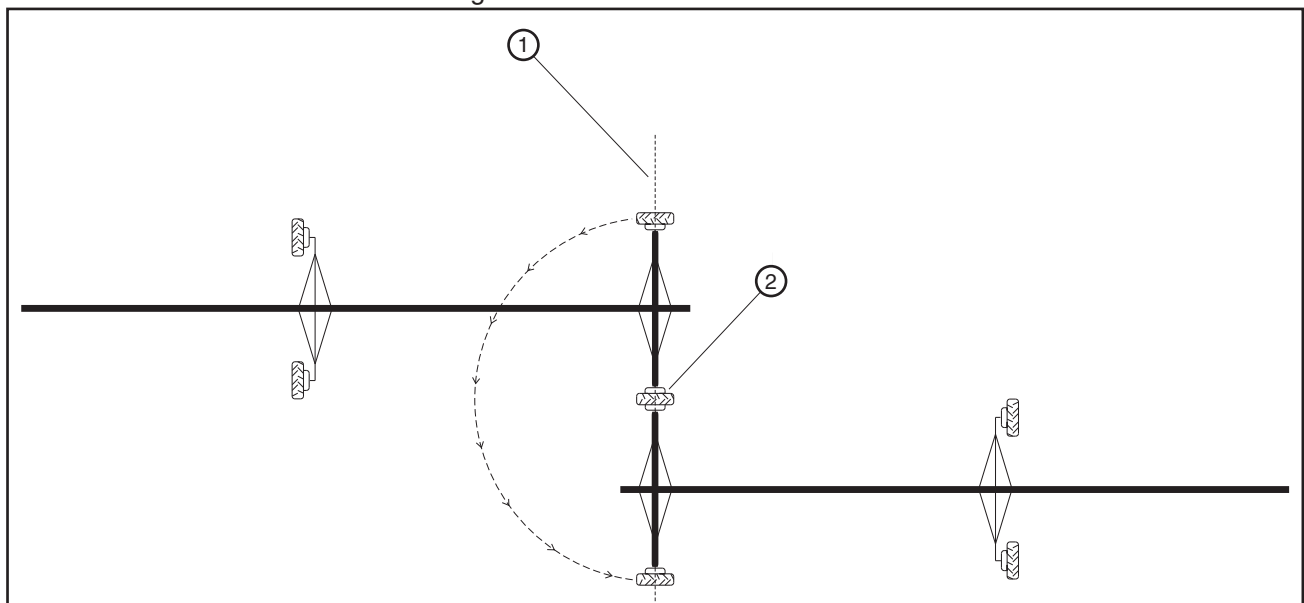

Figure 77-3 Fixed Wheel method.
6. When the machine is started it will pivot around the center of the fixed wheel. See figure 77-3.